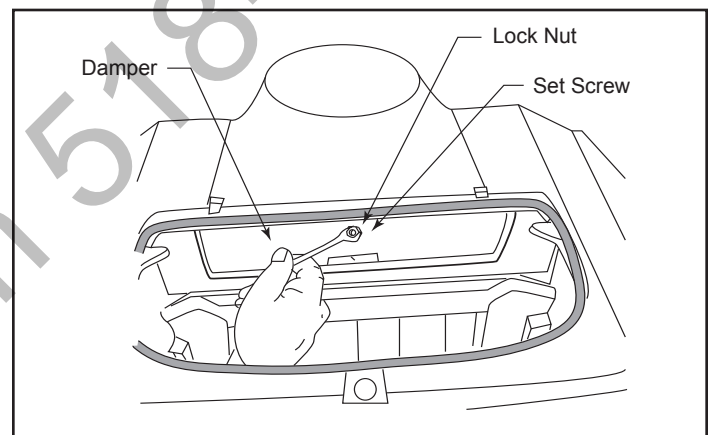

Figure 21 - When the damper's gasket becomes compressed after prolonged use, the damper should be adjusted to regain a tight seal.
- Loosen the lock nut on the set screw in the center of the damper. (Figure 21)